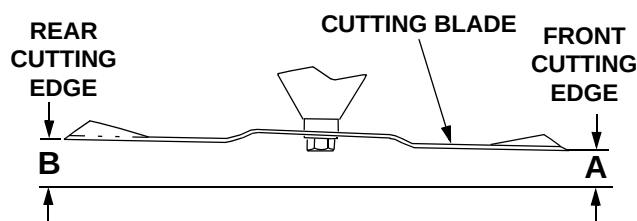

Figure 61
- Refer to Figure 61. Measure and record the distance from the front cutting edge to the ground (measurement A), and from the rear cutting edge to the ground (measurement B), for each of the blades. The front edge of each blade (measurement A) should be lower than its back edge (measurement B) by $1/8$ to $1/4$ inch.